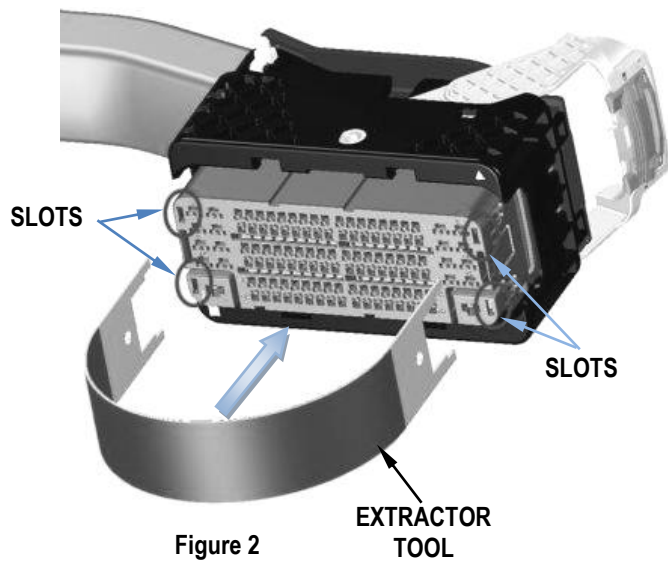

Figure 2
1. Insert the extractor tool into the (2) side slots of the (TPA) secondary lock on each sides until it stops. See Figure 2.